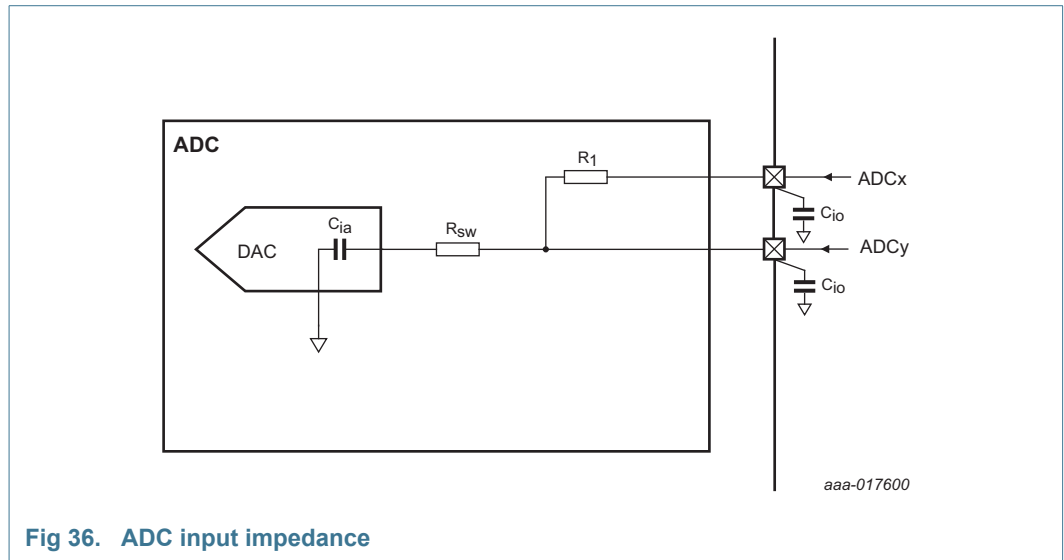

Fig 36. ADC input impedance
- [10] Input impedance Z_i is inversely proportional to the sampling frequency and the total input capacity including C_{ia} and C_{io} : $Z_i \propto 1 / (f_s \times C_i)$. See Table 19 for C_{io} . See Figure 36.
- (1) Example of an actual transfer curve.
- (2) The ideal transfer curve.
- (3) Differential linearity error (E_D).
- (4) Integral non-linearity (E_{L(adj)}).
- (5) Center of a step of the actual transfer curve.
Figure 36 shows the ADC input impedance. In this figure: